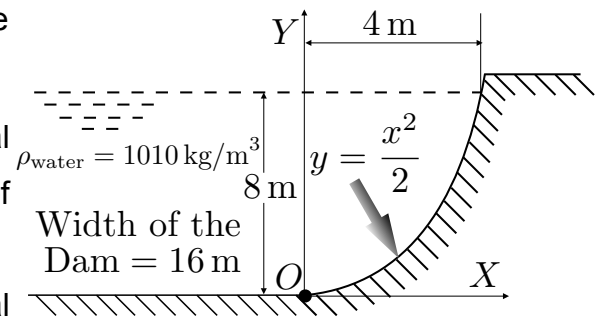

Figure 3: Water Stored in a Dam
6. Figure 3 shows water stored in a dam. Take the acceleration due to gravity as 9.81 m/s^2 .